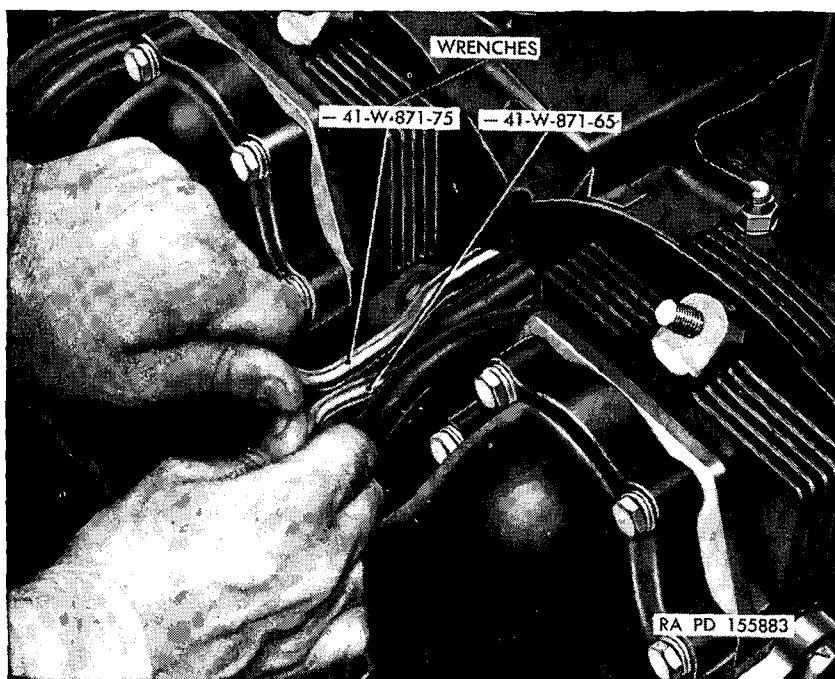

Figure 13. Disconnecting spark plug leads.
- (1) At the carburetor, disconnect fuel supply lines, fuel pump vent line, and electrical connections from de-gassers; vent lines from magnetos and aspirators; carburetor-to-oil filler breather tube (par. 37) and fuel lines from the pump.
- (2) Disconnect all throttle linkage rods from carburetor and governor. Install pins for safekeeping.
- (3) Remove jam nuts, plain nuts, and plain washers holding carburetors to carburetor elbow. Lift off carburetors. Discard gasket.
b. Ignition Harness (fig. 13).
- (1) Disconnect spark plug leads at spark plugs. Use crow-